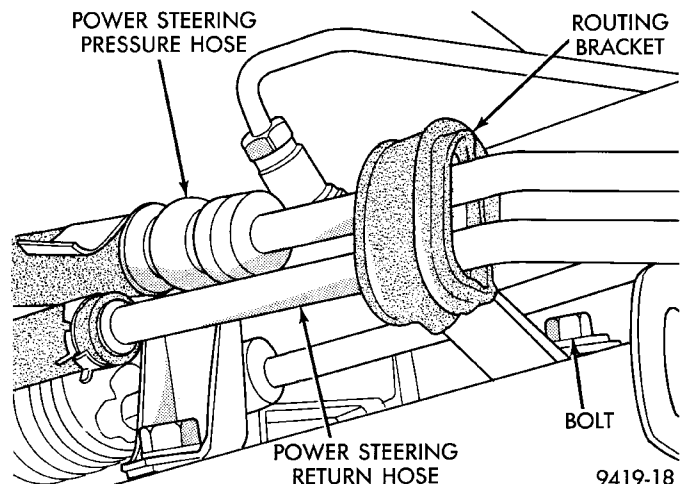
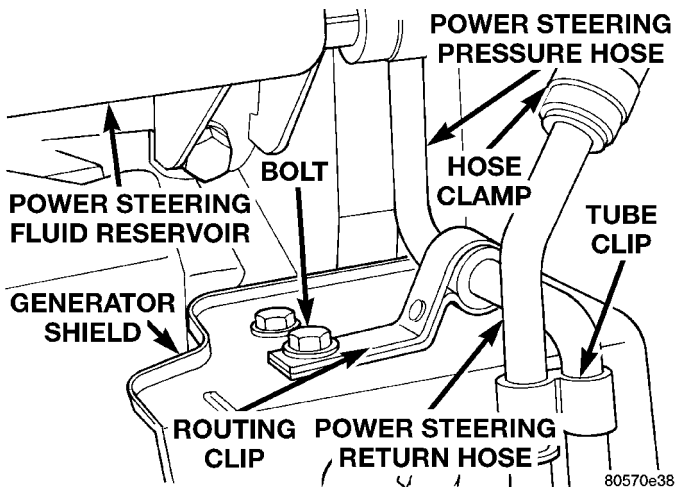
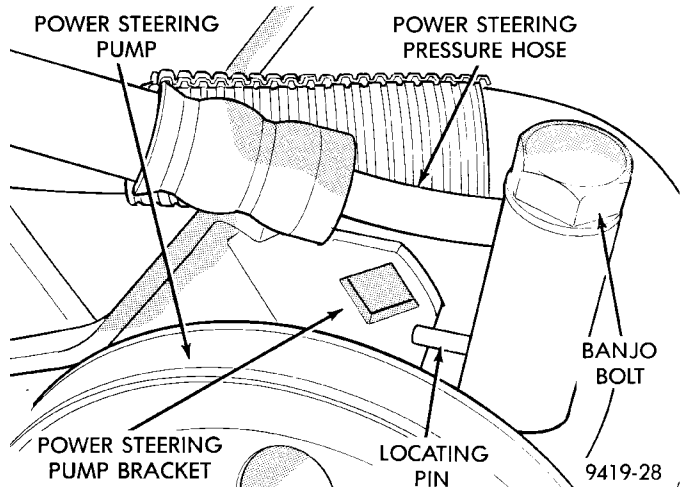

Fig. 8 Power Steering Hose Routing Bracket
Fig. 10 Power Steering Pressure Hose Routing Clip At Generator Shield
Fig. 12 Power Steering Hose Attachment To Power Steering Pump
- (1) Raise vehicle.
- (2) Remove bolt attaching power steering hose routing bracket to front suspension crossmember (Fig. 8).
(4) Remove power steering pressure hose from routing clip on generator shield (Fig. 10).
- (7) Loosen and remove Banjo bolt, and power steering pressure hose from pressure fitting on power steering pump (Fig. 12).
- (8) Power steering fluid pressure hose is removed from the vehicle from the top of the engine compartment.
- (9) Discard all used O-rings located at ends of power steering pressure hose and Banjo bolt.
- (7) Attach power steering pressure hose to outlet fitting on power steering pump (Fig. 12). **Do not tighten or torque pressure fitting Banjo bolt at this time.**
(11) Install the power steering pressure and return hose routing clip on hoses (Fig. 8). Install bolt attaching routing clip to front suspension crossmember. Torque routing clip to front suspension crossmember attaching bolt to 23 N·m (17 ft. lbs.).
(12) Torque power steering pressure hose to steering gear tube nut to 34 N·m (25 ft. lbs.).
(13) Install power steering pressure hose in routing clip on generator shield (Fig. 10).
(14) Lower Vehicle.
(15) Position locating pin on power steering pressure hose banjo fitting so it is against power steering pump mounting bracket (Fig. 12). While holding locating pin against power steering pump bracket, torque pump end Banjo bolt to 34 N·m (25 ft. lbs.).
(16) Securely tighten bolt attaching power steering pressure hose bracket to generator shield.
(17) Start the engine and let run for a few seconds. Then turn the engine off.
(18) Add fluid if necessary. Repeat the above procedure until the fluid level remains constant after running the engine.
(19) Raise front wheels of vehicle off the ground.
(20) Start the engine. Slowly turn the steering wheel right and left, lightly contacting the wheel stops. Then turn the engine off.
(21) Add power steering fluid if necessary.
(22) Lower the vehicle and turn the steering wheel slowly from lock to lock.
(23) Stop the engine. Check the fluid level and refill as required.
(24) If the fluid is extremely foamy, allow the vehicle to stand a few minutes and repeat the above procedure.
(25) After hose is installed, check for leaks at all hose connections.